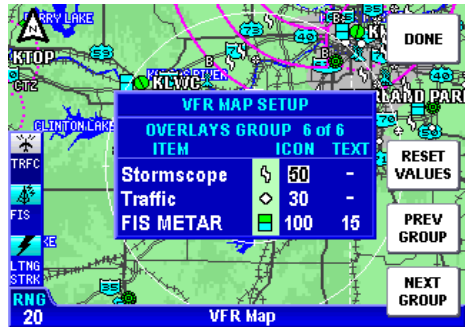

Figure 1-168
6. Press the **NEXT GROUP** or **OVLY SETUP** Softkey to display the **OVERLAYS GROUP** Page as in Figure 1-168.